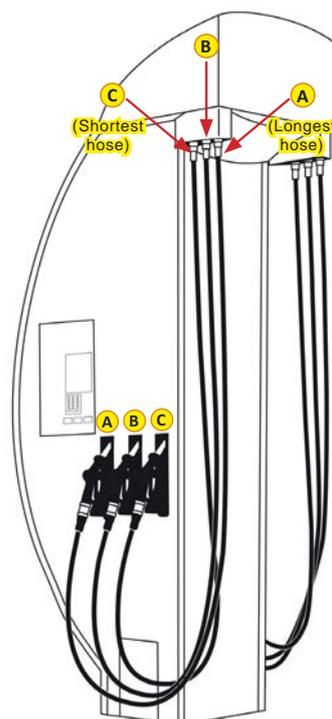

Figure 13. External Hose Positions
- Install external hoses after the external cladding has been fitted. Refer to Section 2 for instructions on the installation of coaxial hoses. The hoses have different lengths according to their position, as shown in Figure 13.